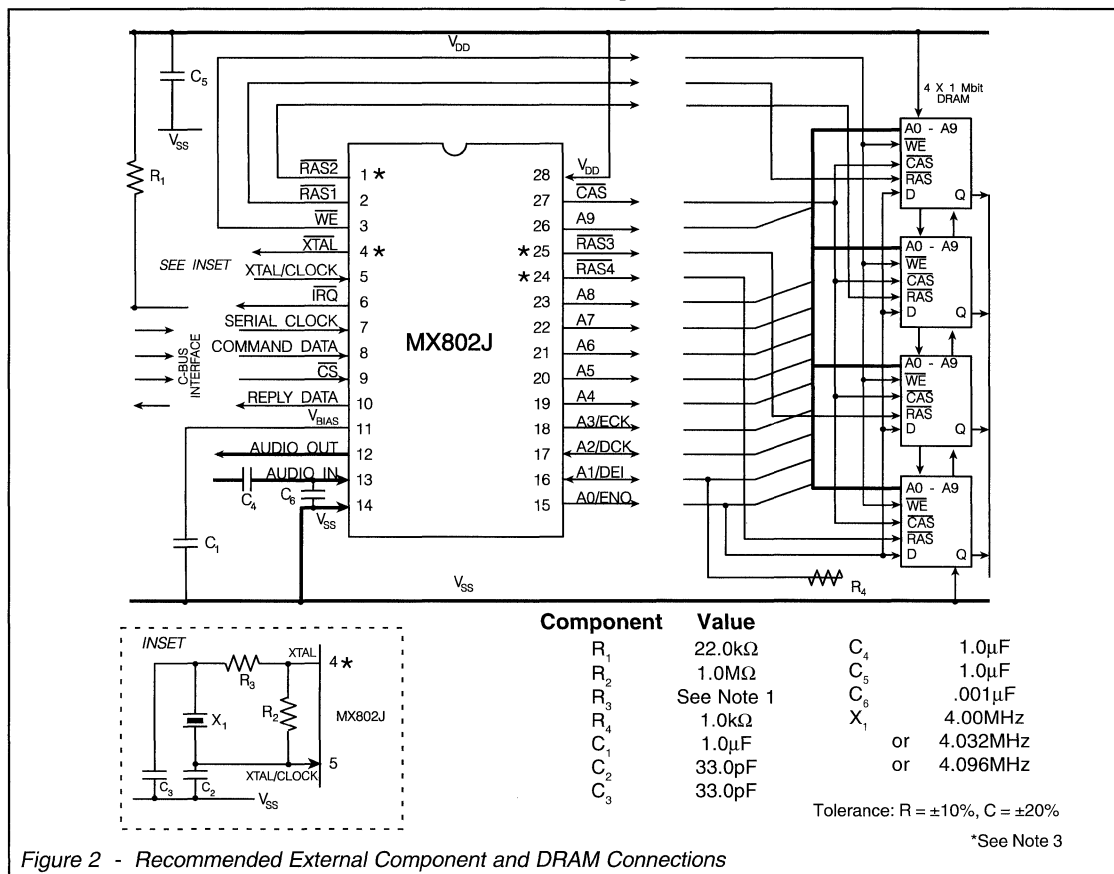

Figure 2 - Recommended External Component and DRAM Connections
- Functions whose pins are marked with an asterisk* in Figure 2 are not available on the 24-pin/lead versions of this device. Pin numbers illustrated are for 28-pin versions.
7. Figure 2 above shows connections to 4 x 1 Mbit sections of DRAM. If desired, to simplify PCB layout, the DRAM inputs A0-A8 may be connected in any order to the MX802 DVSR Codec output pins A0-A8. Connections to 256 kbit DRAM are similar, but A9 is left unconnected.